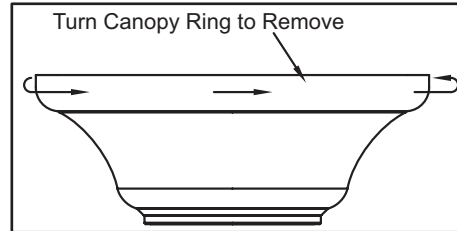

Figure 5
1. Remove the canopy ring from the canopy by turning the ring to the right until it unlocks (Figure 5).
- Remove the canopy ring from the canopy by turning the ring to the right until it unlocks (Figure 5).